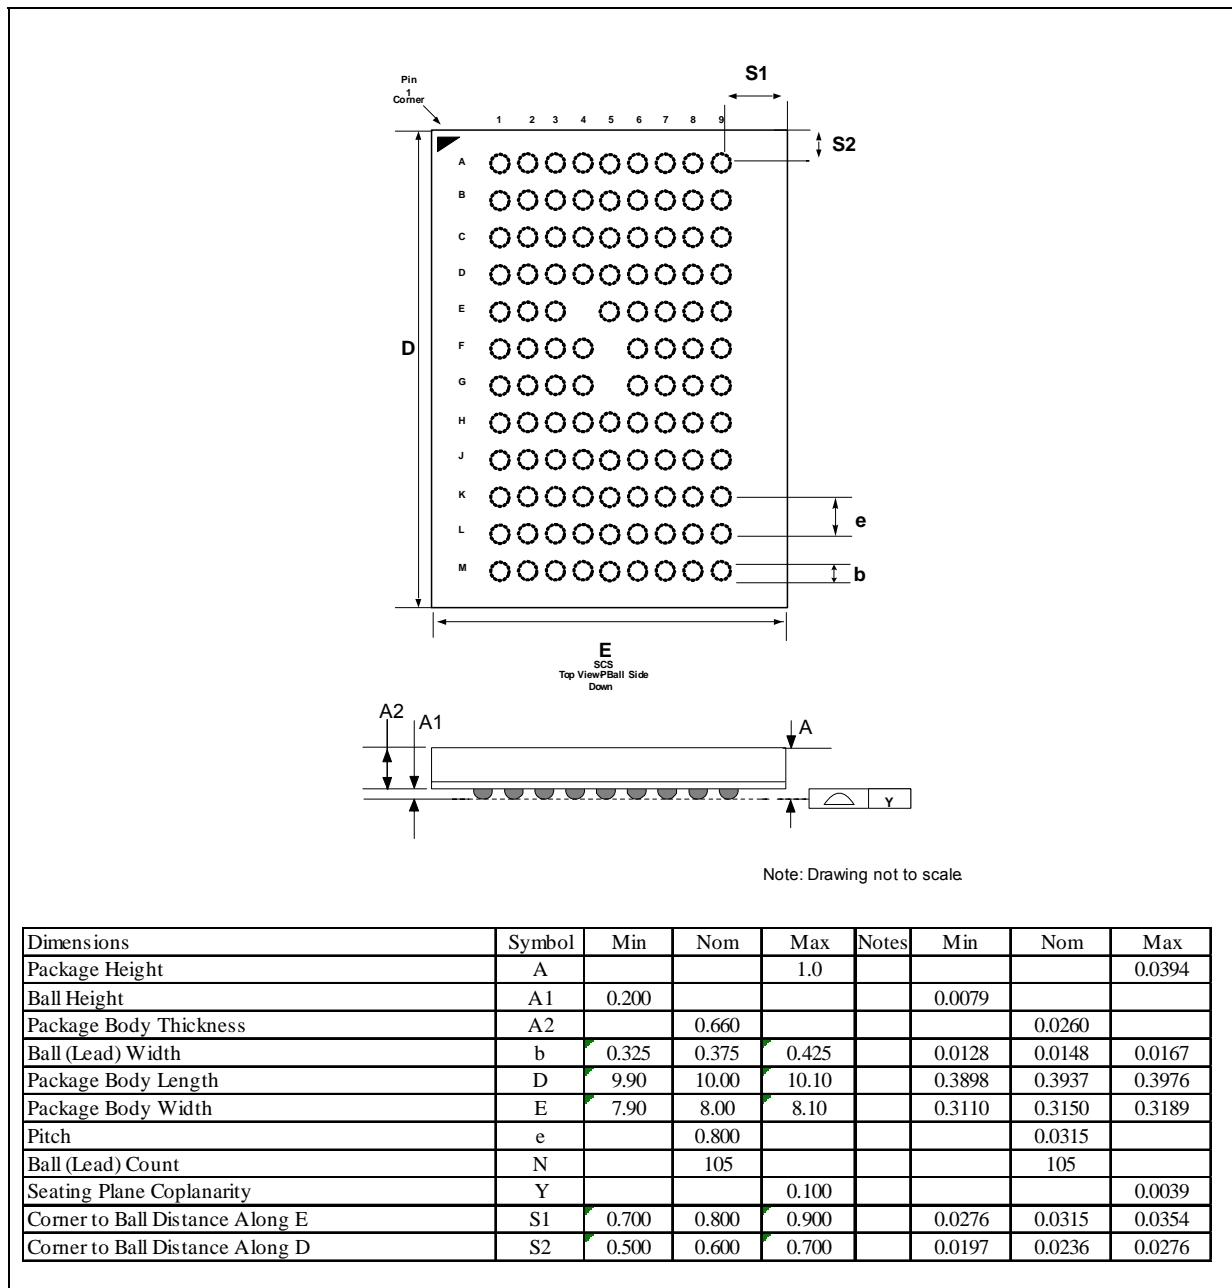

Figure 2. Mechanical Specifications for x16D (105-ball) package (8x10x1.4 mm)
- Figure 2, "Mechanical Specifications for x16D (105-ball) package (8x10x1.4 mm)" on page 16